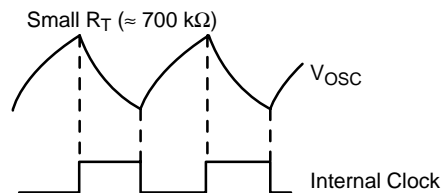

Figure 7. Oscillator Timing Network and Parameters
**ELECTRICAL CHARACTERISTICS** ( $-40^{\circ}\text{C} \leq T_A \leq 85^{\circ}\text{C}$ ,  $R_T = 680\text{ k}\Omega$ ,  $C_T = 0.022\text{ }\mu\text{F}$  for Triangular Mode,  $V_{CC} = 15\text{ V}$  (Note 3.),  $R_T = 10\text{ k}\Omega$ ,  $C_T = 3.3\text{ nF}$  for Sawtooth Mode (see Figure 7); unless otherwise specified.)
**ELECTRICAL CHARACTERISTICS (continued)** ( $-40^{\circ}\text{C} \leq T_A \leq 85^{\circ}\text{C}$ ,  $R_T = 680\text{ k}\Omega$ ,  $C_T = 0.022\text{ }\mu\text{F}$  for Triangular Mode,  $V_{CC} = 15\text{ V}$  (Note 3.),  $R_T = 10\text{ k}\Omega$ ,  $C_T = 3.3\text{ nF}$  for Sawtooth Mode (see Figure 7); unless otherwise specified.)